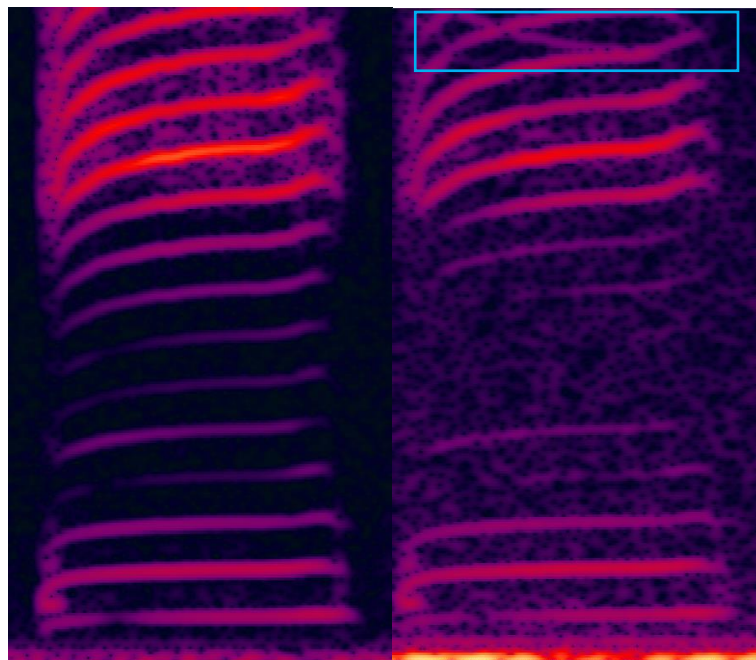

Figure 3: The right hand signal is aliasing (This will affect AEC result.)
- A. There is no aliasing in the audio files, see Figure 3